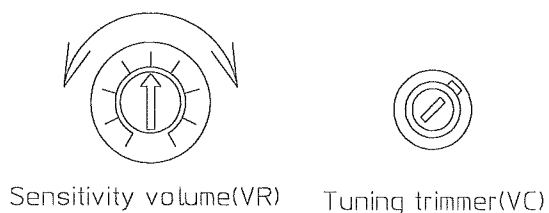
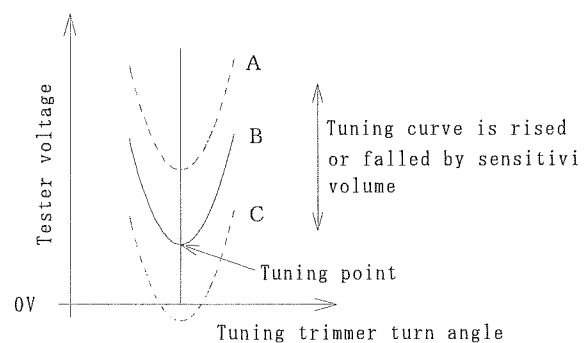

Fig. 4
Fig. 5
- 6.1.4 Set the sensitivity volume at midpoint, as shown in Fig.4, and then turn the tuning trimmer slowly with a small screwdriver. The voltage will describe the secondary curves shown in Fig.5. The point (the lowest one) where the voltage drops to the bottom and then climbs upward represents the correct tuning point. If difficulty should be experienced in proper tuning when this reading on the tester approaches 0 V DC, repeat the adjustment by moving the sensitivity volume clockwise to 4-5 V DC. As shown in Fig.5, tuning points will describe secondary curves A, B, and C when the sensitivity volume is turned.